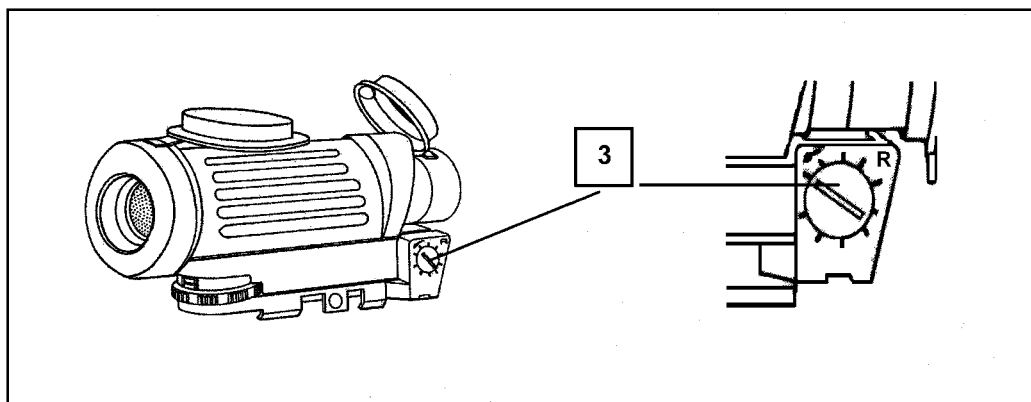

Figure G-35. Rotation of the windage adjustment screw.
b. **Windage Adjustment Screw.** The windage adjustment screw is used when zeroing the weapon. Turning the windage adjustment screw (3) clockwise one click moves the point of impact left 2.5 mm at 10 meters. Turning the windage adjustment screw (3) counterclockwise, one click moves the point of impact right 2.5 mm at 10 meters (Figure G-35).